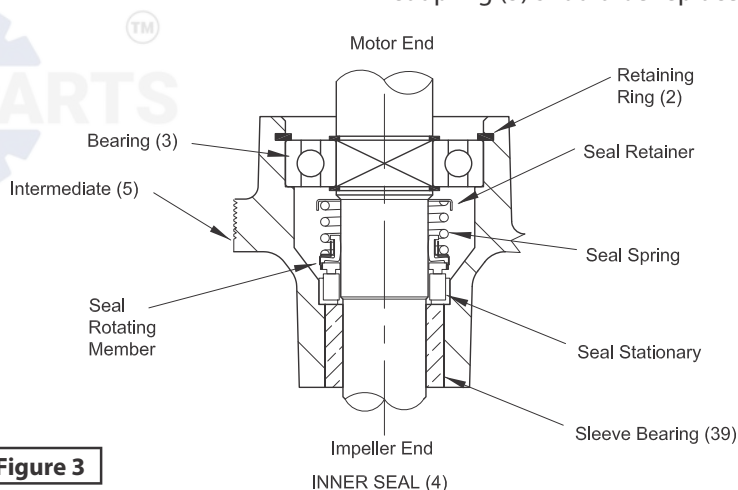

Figure 3
**Bearings and Inner Seal** - Remove seal (4) rotating member and spring from rotor shaft. Press stationary from intermediate (5) with flat screwdriver.
Examine all seal parts. Inspect contact faces for signs of uneven wear tracks on stationary, chips and scratches on either seal face. **DO NOT** interchange seal components, replace the entire shaft seal (4). Remove retaining rings (6) from shaft. Using a wheel puller or arbor press remove bearing (3) from shaft. Remove upper motor bearing from shaft with a bearing puller. (See Figure 3)
**Moisture Probes** - Apply thread compound to thread on probes (36) and install in intermediate (5). Connect wires (33) with screws (37).
**Bearings** - Be careful not to damage the rotor shaft when replacing bearings. Using an arbor press, hold the rotor and press the upper bearing on the rotor shaft, applying force to the inner race of the bearing only. Replace upper retaining ring onto rotor shaft. In the same manner replace lower bearing (3) onto rotor shaft. Place lower retaining rings (6) onto shaft.
**Inner Seal** - Clean and oil seal cavity in intermediate coupling (5). Lightly oil (**Do not use grease**) outer surface of stationary member. Press seal's (4) stationary member firmly into intermediate coupling (5), using a seal tool or pipe.
Nothing should come in contact with the seal face except the seal tool. Be sure the stationary is in straight. Place seal's (4) retaining ring and spring over shaft until seated on shaft shoulder. Slide a bullet tool over rotor shaft threads. Lightly oil (**Do not use grease**) shaft, bullet, and inner surface of bellows on rotating member, with finished end away from motor, slide rotating member over bullet and onto shaft until it engages spring. Make sure spring is seated in retaining ring and spring is lined up on rotating member and not cocked or resting on bellows tail. (See Figure 3)
**Motor** - Slide rotor/shaft with bearing (3) and seal parts (4) into intermediate coupling (5) until bearing seats into intermediate coupling. Install retaining ring (2) into intermediate coupling (5). Place motor stator over rotor, lining up motor bolts with holes in intermediate coupling (5). Place end bell on top of motor and insert motor bolts and torque to 17 in/lb.